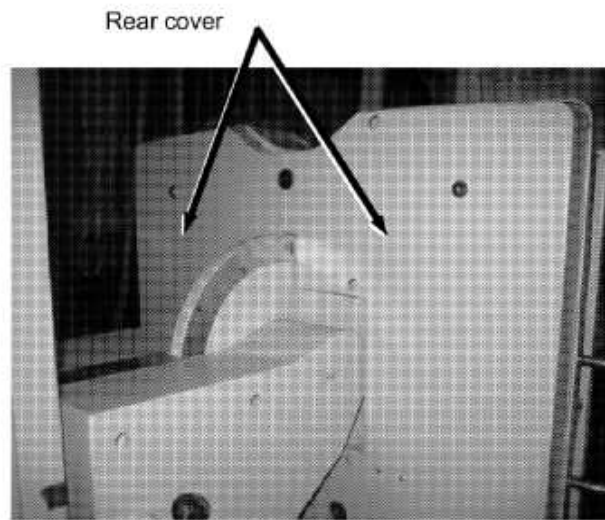

Fig. 4. 14
10. Install the plate (Binding screw M4X8,2places).(Fig. 4. 15)